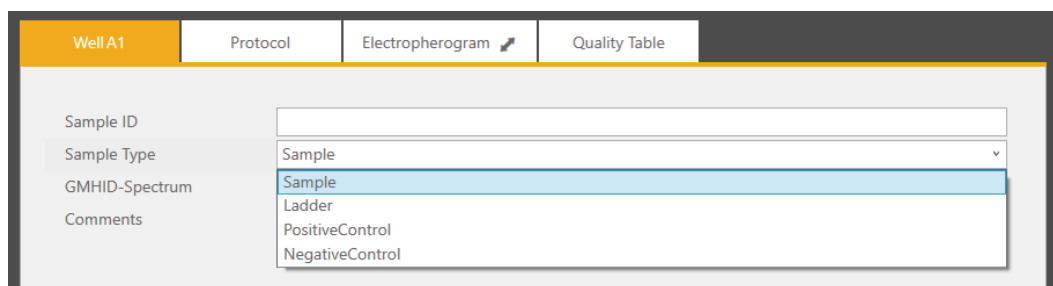

Figure 10. Drop-down options for sample type.
5. Select sample types for each sample or group of samples on the plate. Select the sample(s) then use the drop-down menu (Figure 10) to designate the well as Sample, Ladder, Positive Control or Negative Control. These designations will be included in the output file for downstream analysis.